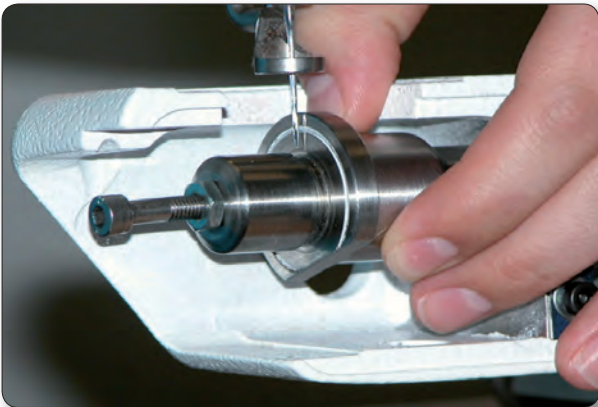

Figure 12.5
4. Slide the cylinder tool gently against the needle. (Figure 12.5)